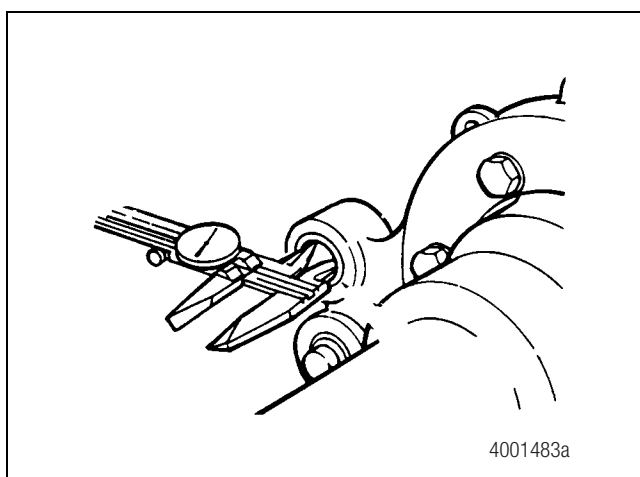

Figure 5.14
- On brakes with anchor pin bushings, the inside diameter of the bushing must not exceed 1.023-inches (26 mm). Figure 5.14.